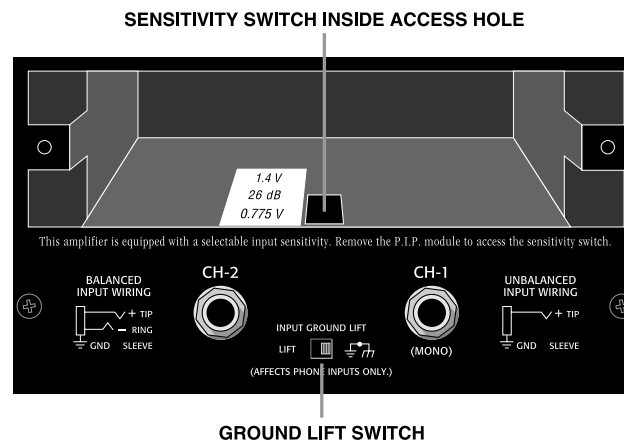

Figure 4.4 Input Sensitivity and Ground Lift Switches
3. Locate the access hole for the sensitivity switch inside the chassis opening (see Figure 4.4).